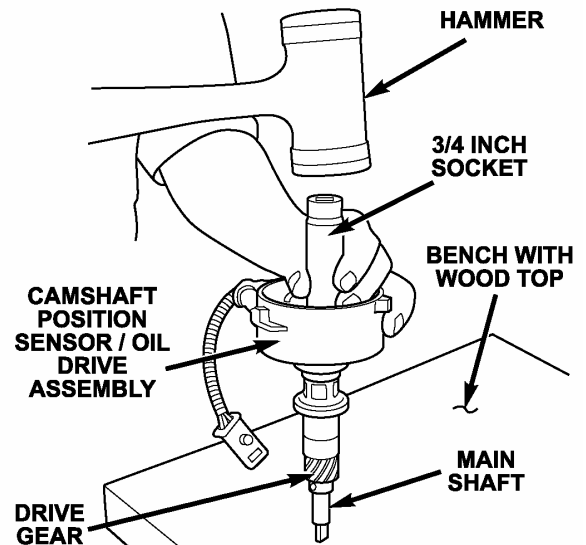

Figure 23
- 1. If the clearance is **excessive (loose)**, stand the assembly upright on the main shaft, place a $\frac{3}{4}$ inch deep well socket over the shaft at the trigger wheel (Figure 23).